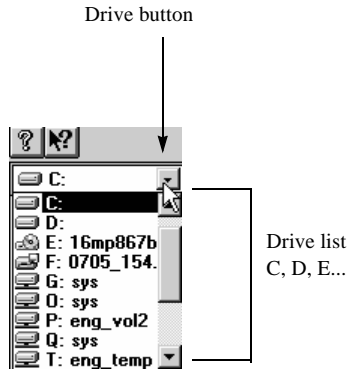

Figure A.8: Drive List
2. Click on **the Drive** button, Figure A.8. The Drive list appears.